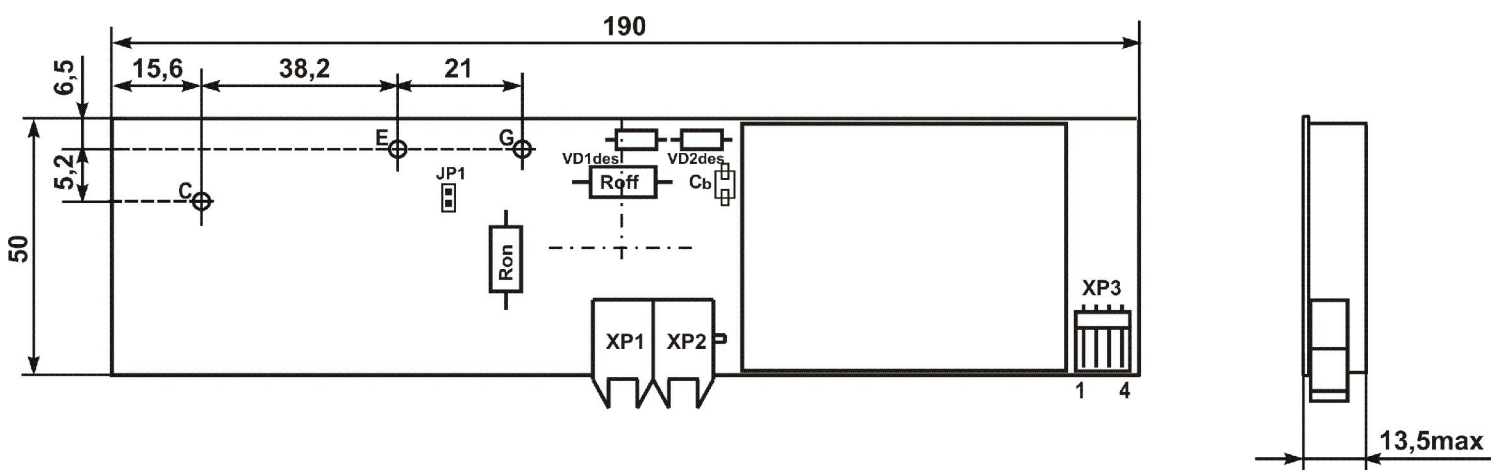
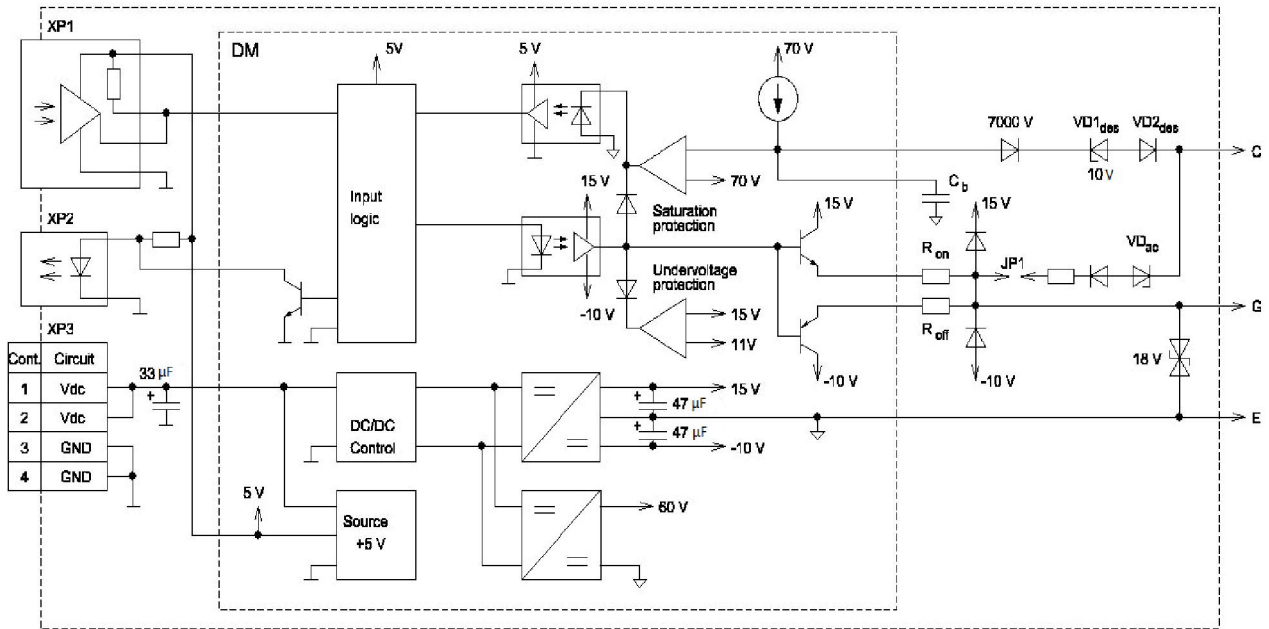

Figure 1 – Overall driver drawing
Figure 2– Functional driver circuit
3.2 Overall drawing is shown at Figure 1, functional driver scheme is represented at Figure 2.